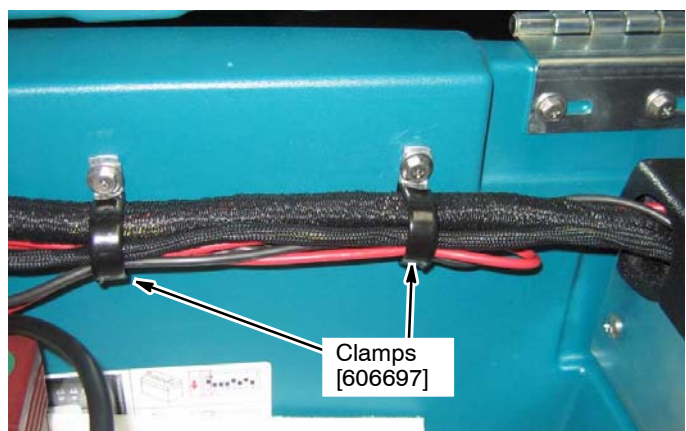

Fig. 20
18. Remove the factory installed clamps and replace with larger cable clamps to secure the routed ec-H2O harness to control console (Figure 20).